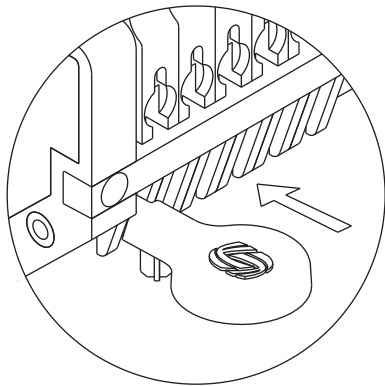

Figure 7 Removing Card View 2
- Use a small wrench to disassemble the card for more than 3 channels, as shown in Figure 7